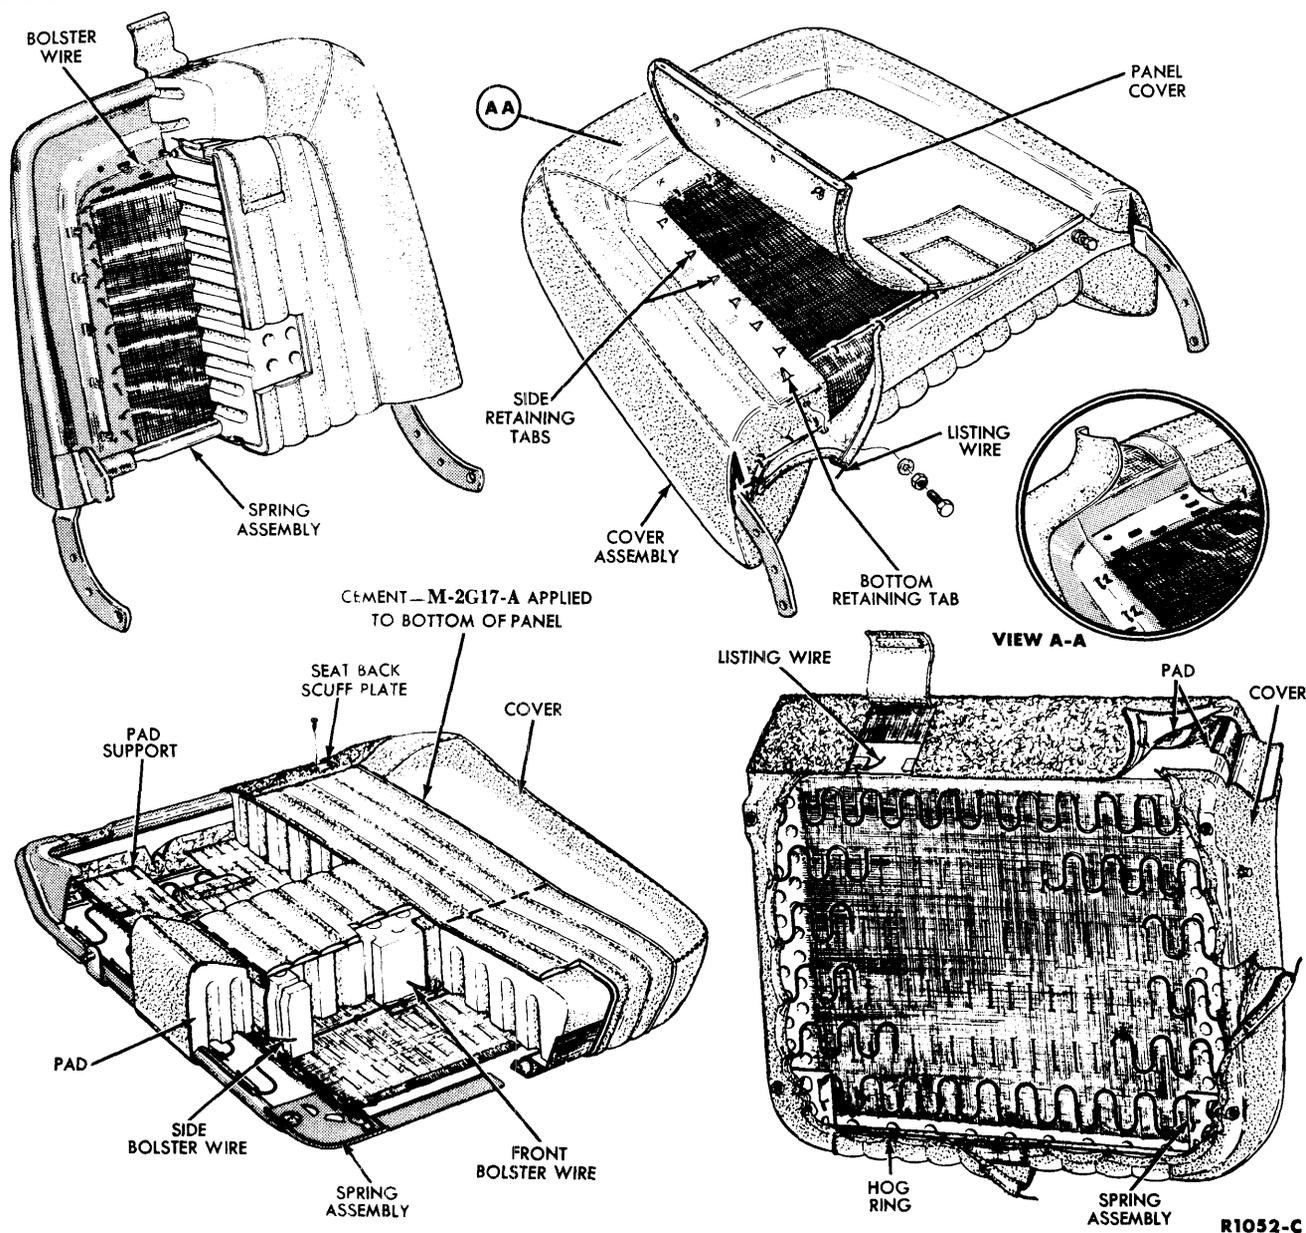

FIG. 14—Front Seat Back and Cushion
When installing a new seat cover or pad, refer to Figs. 14 and 15 for the location of listing wires, hog rings, anti-squeak pads, and seat pad stack-up.
2. Remove the seat back scuff plates and remove the hog rings retaining the seat cushion cover to the spring assembly (Fig. 14). Separate
7. The front and side edges of the cover assembly can now be secured to the bottom of the spring assembly with hog rings as shown in Fig. 14.
1. From each side of the seat, remove the seat back pivot arm retaining pin and retainer, and then remove the seat back. Remove the 2 seat back stops, seat back pivot arm covers, and remove the panel cover from the seat back (Fig. 14). Remove the hog rings from the seat back assembly, bend the tabs up on the seat back, and remove the seat back cover. Inspect the pad and spring assemblies, and repair or replace as necessary.
3. Place the new cover over the pad and spring assembly, and with 12 equally spaced hog rings, secure the cover to the bolster wire (Fig. 14).
5. Pull the lower rear edge of the cover over the bottom of the spring assembly, and secure each side with 3 hog rings (Fig. 14).
6. Pull the lower front edge of the cover over the bottom of the spring assembly, and secure to the lower rear edge of the cover with 1 hog ring on each side (Fig. 14). Secure the lower listing of the cover assembly to the spring assembly with 5 hog rings, pierce the cover over the bottom retaining tab, and bend each tab toward the top of the seat.